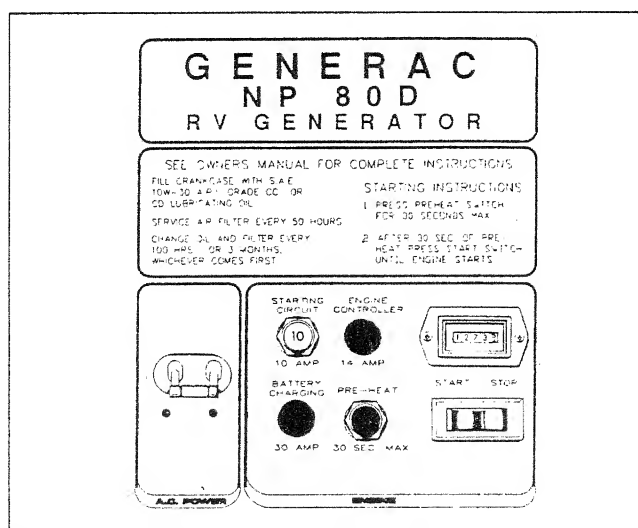

Figure 3 — Generator Control Panel
See Figure 3 to identify the following components:
**Preheat Switch:** The diesel engine is equipped with glow plugs, one for each cylinder. When you press the preheat switch (Figure 3), the glow plugs heat the engine combustion chamber for quicker starts in cold weather. To preheat the combustion chamber for quicker starts in cold weather. Press the switch and between 15 and 30 seconds. Continue holding in the preheat switch while cranking the engine until it starts.